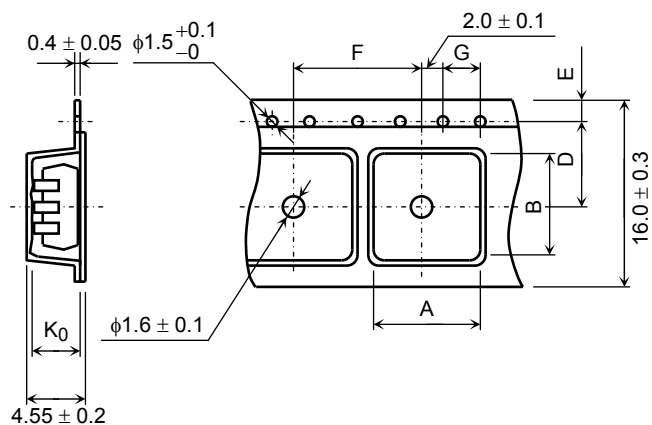

Figure 2 Tape Forms
- (1) Tape material: Plastic (protection against electrostatics)
- (2) Dimensions: The tape dimensions are as shown in Figure 2 and Table 2.